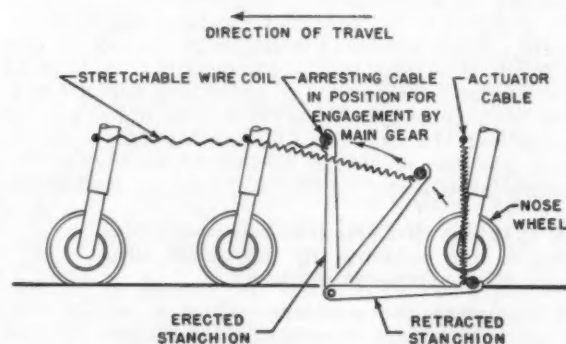

Fig. 2—Nose wheel catches a spring wire. The wire pulls an arm which lifts the cable to engage the main wheels. The wire shears and stays with the plane.
- **Cable stanchion erector**—The nose wheel hits a high-strung stretchable wire. The wire pulls a lever arm which lifts the arresting cable in front of the main wheel struts. The trigger wire shears off and trails with the airplane. (See Fig. 2)